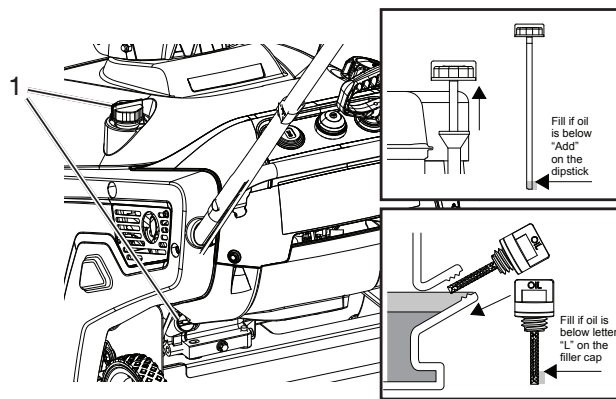

Figure 5
2. Clean around the dipstick (Figure 5).